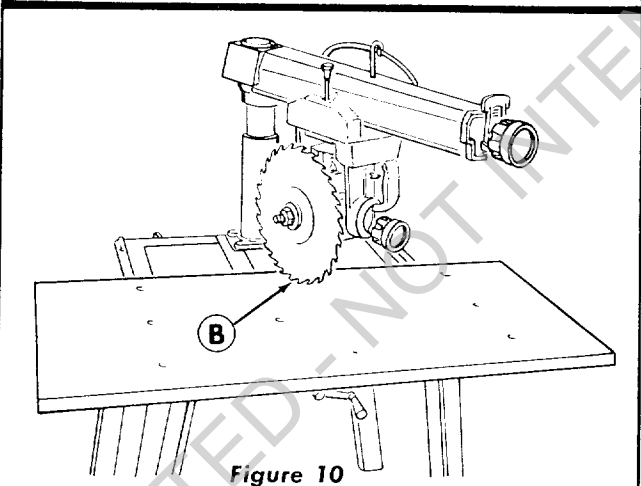

Figure 10
- Move the blade to point B near the rear edge of table. (See figure 10.) If saw blade starts to ride on table as it is moved rearward, loosen the nut near the rear of the No. 2 table support and tap the table downward until the blade just contacts the table at this point. If table is too low at the back, tap it upward until a pinging sound can be heard as blade is rotated. Recheck at both A and B locations and correct as required. Tighten nut at rear of No. 2 table support when correct center height is obtained.